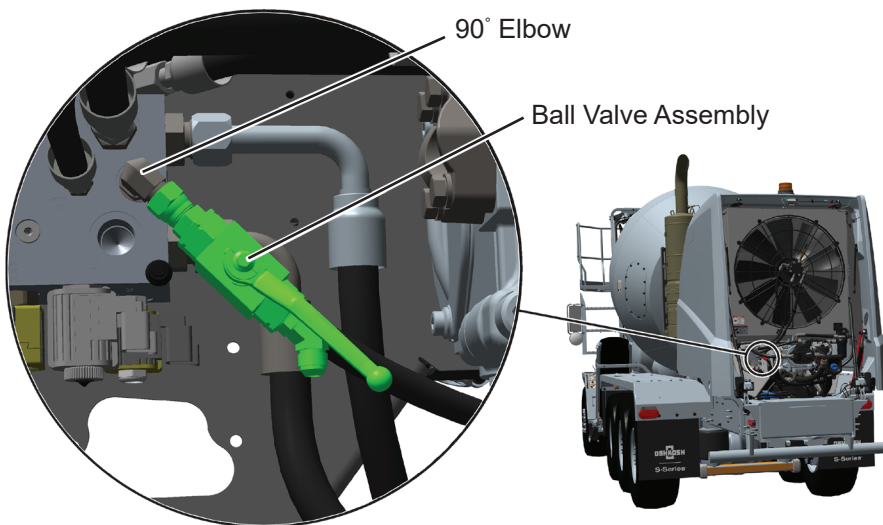

Figure 15. Ball Valve Assembly
23. Install ball valve assembly straight fitting on fan manifold chute supply port "S" 90° fitting. See Figure 15. Final tighten straight fitting on 90° fitting to 45 ft. lbs. Figure 15 shows ball valve in open position. Rotate handle 90° to close ball valve and stop flow of hydraulic oil.